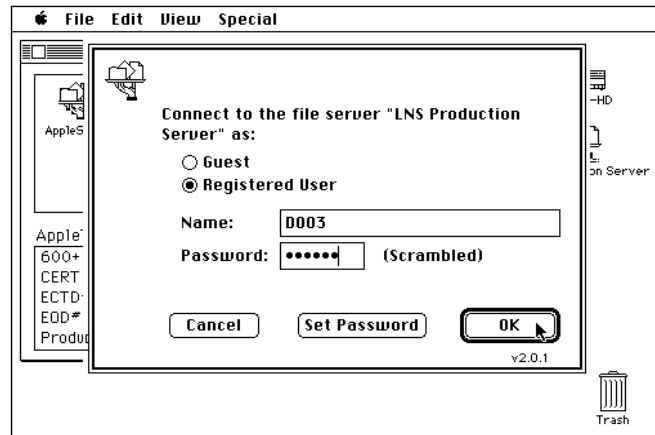

Figure 2
- 7.25.3 The message “Connect to the file server LNS Production Server as: Registered User” will appear (see figure 2). The dyno number will be displayed in the “Name” box. Type in the correct password and click on the “OK” button.